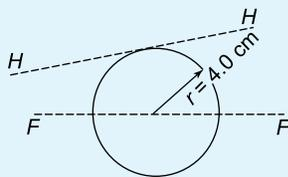

Figure 8.21
- For the circle shown in Figure 8.21, find the second moment of area and radius of gyration about (a) axis *FF* and (b) axis *HH*